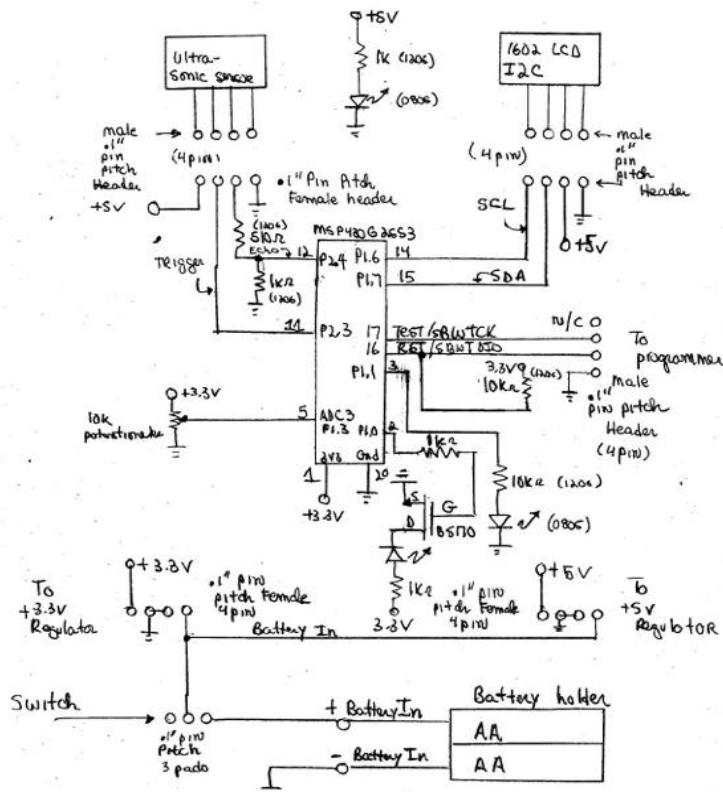

Figure 3: Schematic of the MSP430G2553 interface pins
- 4.4.** With the help of the laboratory GTA download your project software onto the MSP430g2553 processor using the MSP-EXP430G2ET development board. You will need to connect wires from your project board programming header to P1.6 (SWBTUDIO), P1.7 (SWBTCK), and ground. Using code composer studio to download your software to the project board (Figure 3).